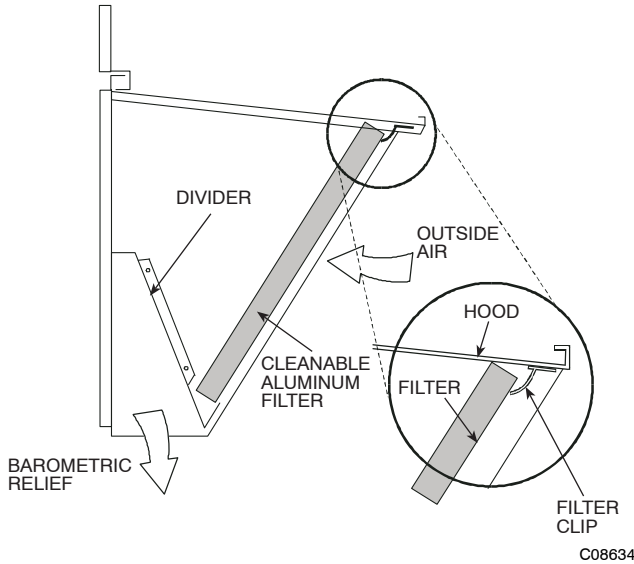

Fig. 14 - Economizer Filter Installation
5. Open the filter clips which are located underneath the hood top. Insert the aluminum filter into the bottom filter rack (hood divider). Push the filter into position past the open filter clips. Close the filter clips to lock the filter into place. See Fig. 14.